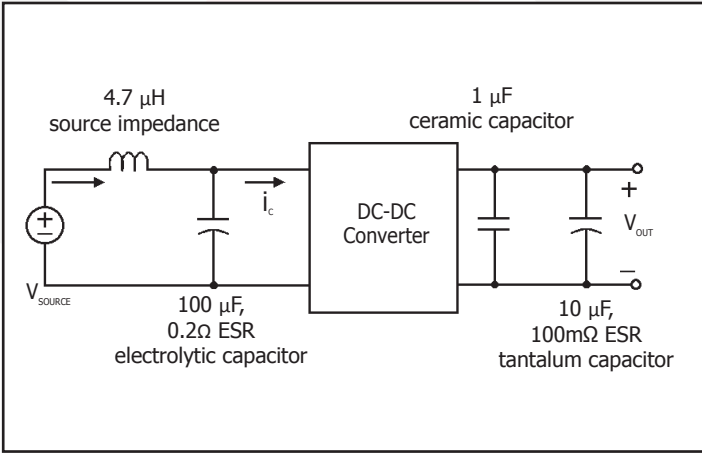

Figure 17: Test set-up diagram showing measurement points for Input Terminal Ripple Current (Figure 9) and Output Voltage Ripple (Figure 10).
**Figure 10:** Output voltage ripple,  $V_{out}$ , at nominal input voltage and rated load current (50 mV/div). Load capacitance: 1 $\mu$ F ceramic capacitor and 10 $\mu$ F tantalum capacitor. Bandwidth: 25 MHz. See Figure 17.